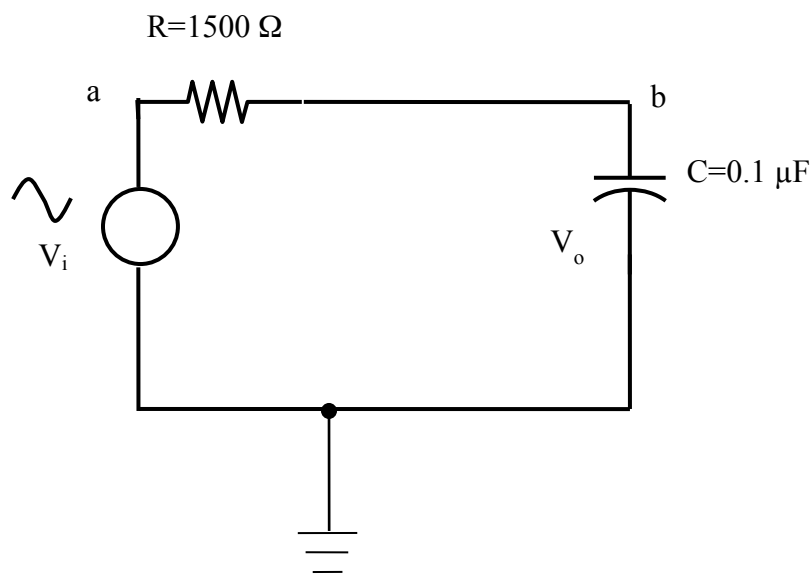

Figure L4.1 A low pass filter
Consider the circuit shown in Fig L4.1.
1. Assume that the input voltage in Fig. L4.1 is a sine wave with a frequency f Hz and a maximum magnitude of A . Find the transfer function, i.e. the ratio V_o/V_i as a function of f and A .
2. From the transfer function, derive the magnitude and phase responses using the component values in Fig. L4.1.
1. Construct the circuit, as shown in Fig. L4.1, on a breadboard.